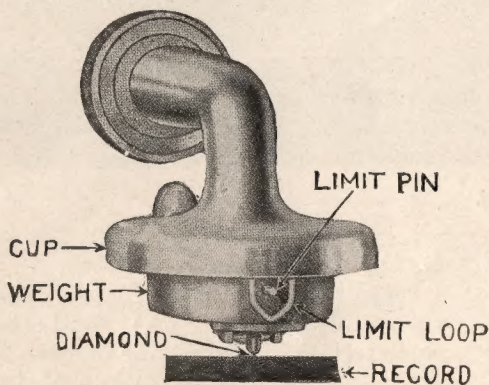

Fig. 2
- (a) After removing the cardboard packing found between the Reproducer cup (Fig. 2) and the weight (Fig. 2).
1. Figure 2 shows the correct setting of the Reproducer when in playing position. You will note that the "Limit Pin" is located in the centre of the limit loop, at a distance below the "Cup" about equal to its own diameter (of pin).